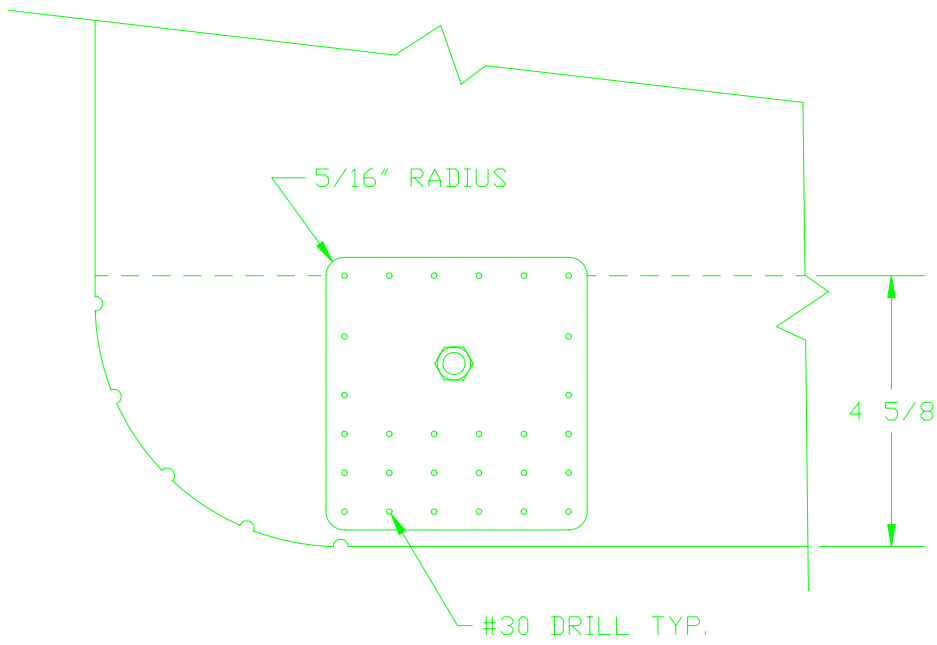

FIGURE 32
63) Add extra holes and trim as in Figure 32.